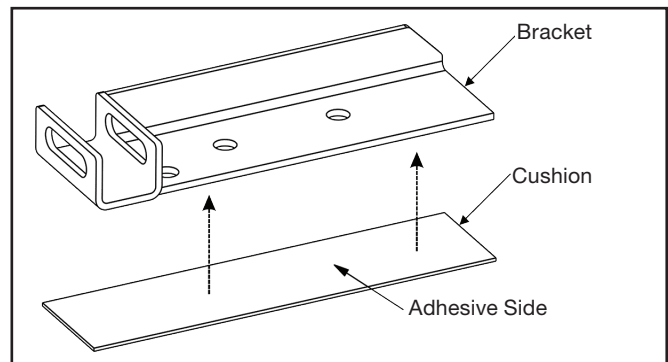

Fig. 2
2. Apply adhesive cushions to brackets. Punch holes in cushions according to marked holes in brackets. See Fig. 2